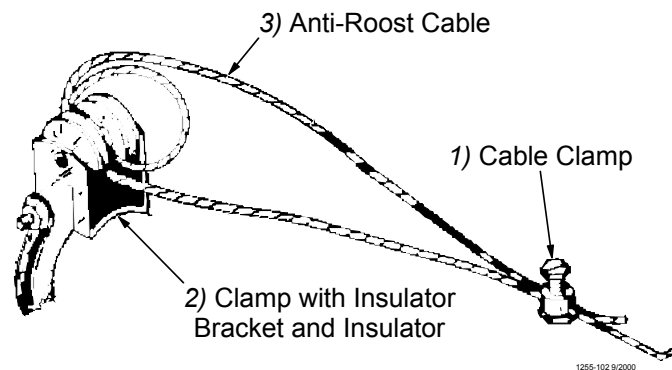

Figure 50. Anti-Roost Cable at the Hopper
2. Start at the hopper end of the line and form a loop around the anti-roost bracket. For best results, make a double loop around the anti-roost insulator in the center groove of the insulator and fasten with a 1/16" cable clamp as shown in **Figure 50**.